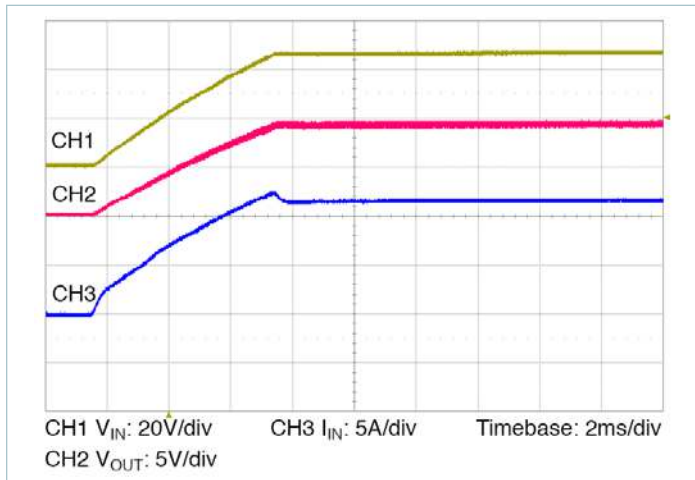

Figure 13 — Start up from application of V_{IN} ; VC pre-applied $C_{OUT} = 1000\mu\text{F}$
- **Normal operation (VC applied prior to V_{IN}):** In this case the controller is active prior to ramping the input. When the input voltage is applied, the VTM module output voltage will track the input (See Figure 13). The inrush current is determined by the input voltage rate of rise and output capacitance. If the VC voltage is removed prior to the input reaching 26V, the VTM may shut down.